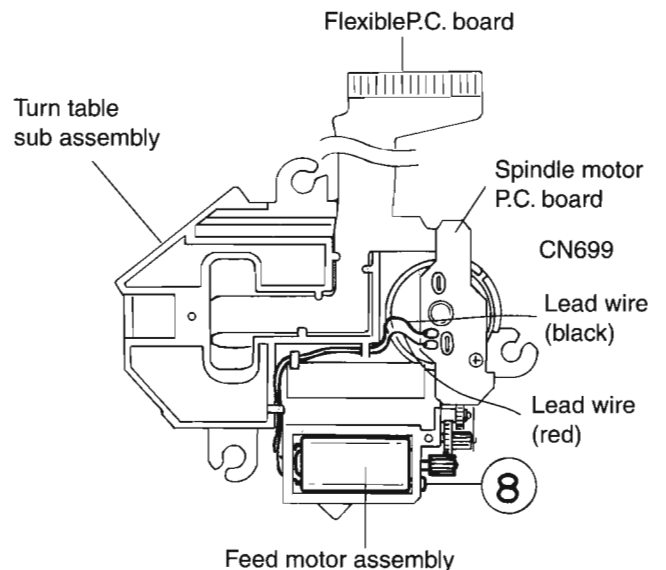

Fig. 16
4. After removing the one screw 8 retaining the feed motor assembly, take out this assembly (see Fig. 16).
5. After turning over the CD mechanism, remove it from the lead wire treating key way on the feed motor assembly (see Fig. 16).
6. Remove the soldered portion of the lead wires (red and black) from the spindle motor P.C. board (see Fig. 16).